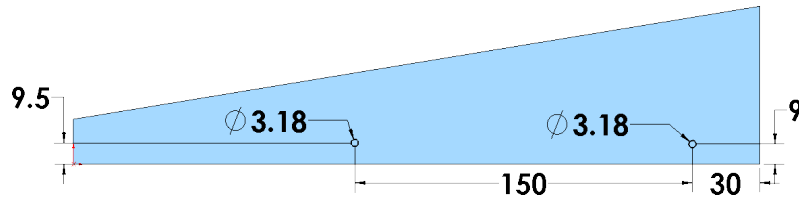

Fig. 6
Step 3. Change dimensions as shown in **Fig. 6**. To change dimension, double click the dimension and key-in new dimension.